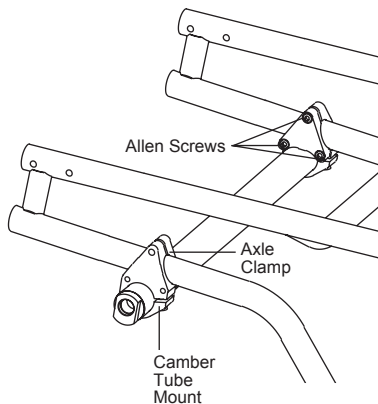

Figure 67
2. Loosen, but do not remove, the six Allen Screws (three on each side of the chair) that secure the axle clamps and camber tube mounts to the frame. See Figure 67.